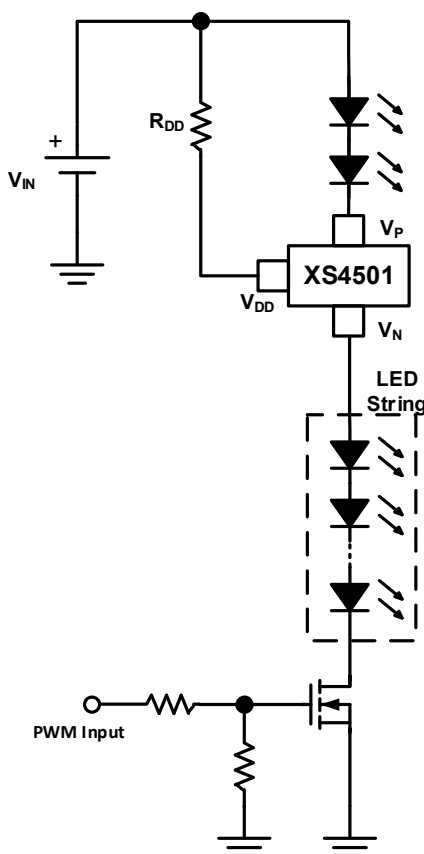
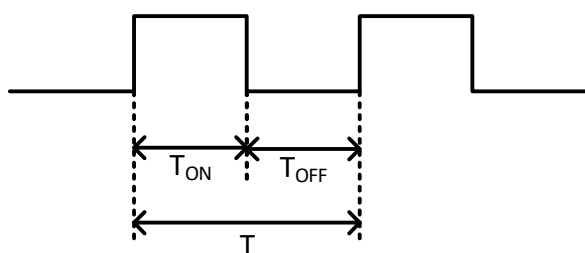

Figure 9. PWM dimming by external MOSFET
Figure 10. PWM dimming signal
XS4501 can be placed for high-side or low-side driver for LED as shown in figure 9. The number of the LEDs is limited by the voltage across the V_{PN} of XS4501. Hence, the designed must estimate the maximum and minimum voltage across the V_{PN} by taking the maximum input voltage less the voltage across the LED string.
The LED dimming can be easily achieved by placing an external MOSFET in series with XS4501 and the dimming effect can be achieved by adjusting the PWM duty cycle, as shown in figure 9. Besides, duty cycle is expressed as below and that is a ration of LED turn-on time (T_{ON}) dividing the total time of an on/off cycle (T) which is shown in figure 10, and figure 11 shows the current accuracy with different duty cycle.